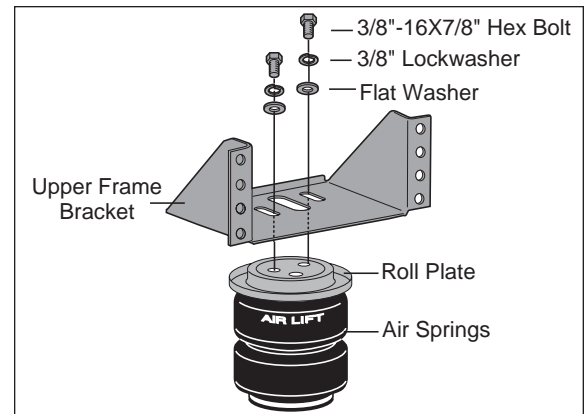

Figure 4
2. Align the holes in the roll plate with the holes in the air spring and loosely attach the upper bracket with the "legs up" using two 3/8"-16x7/8" bolts, lock washers, and flat washers (Figure 4). The upper bracket must be installed in this position.